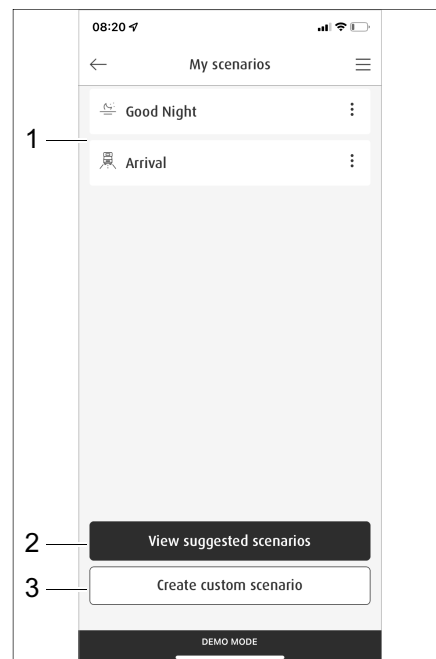

Fig. 292 Managing scenarios
In the *Scenarios*, all stored scenarios can be found (Fig. 292,1). Preset scenarios (Fig. 292,2) can be viewed or new ones created (Fig. 292,3).
- In the *Scenarios* menu, click on the *View Preset Scenarios* (Fig. 292,2) button. A list of preset scenarios will appear.
The buttons for the selected scenarios will be marked in red and transferred to the list in the *My Scenarios* menu (Fig. 292,1).